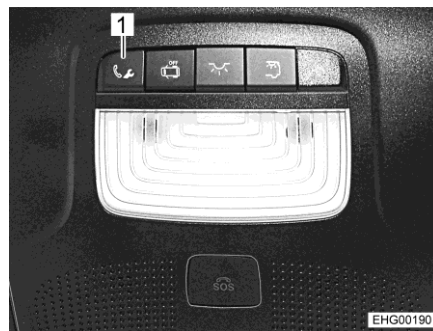

Fig. 13 Button for the call for breakdown assistance
- Press the button (Fig. 13,1) for the call for breakdown assistance. A call to the Mercedes-Benz customer centre is initiated.